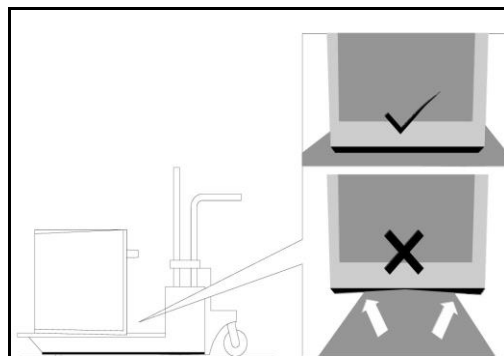

Figure 11
- To avoid damage to the oven vent, use the transport method shown in Figure 11.